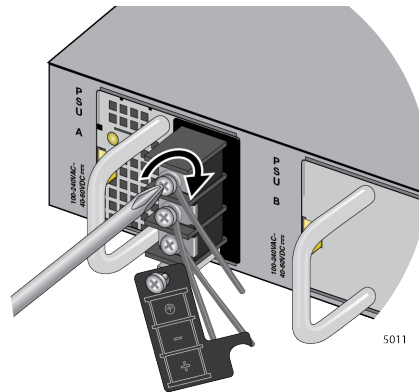

Figure 69. Tightening the Screw for the Negative (+)
6. Wind the power wire and tighten the screw. Refer to Figure 69.